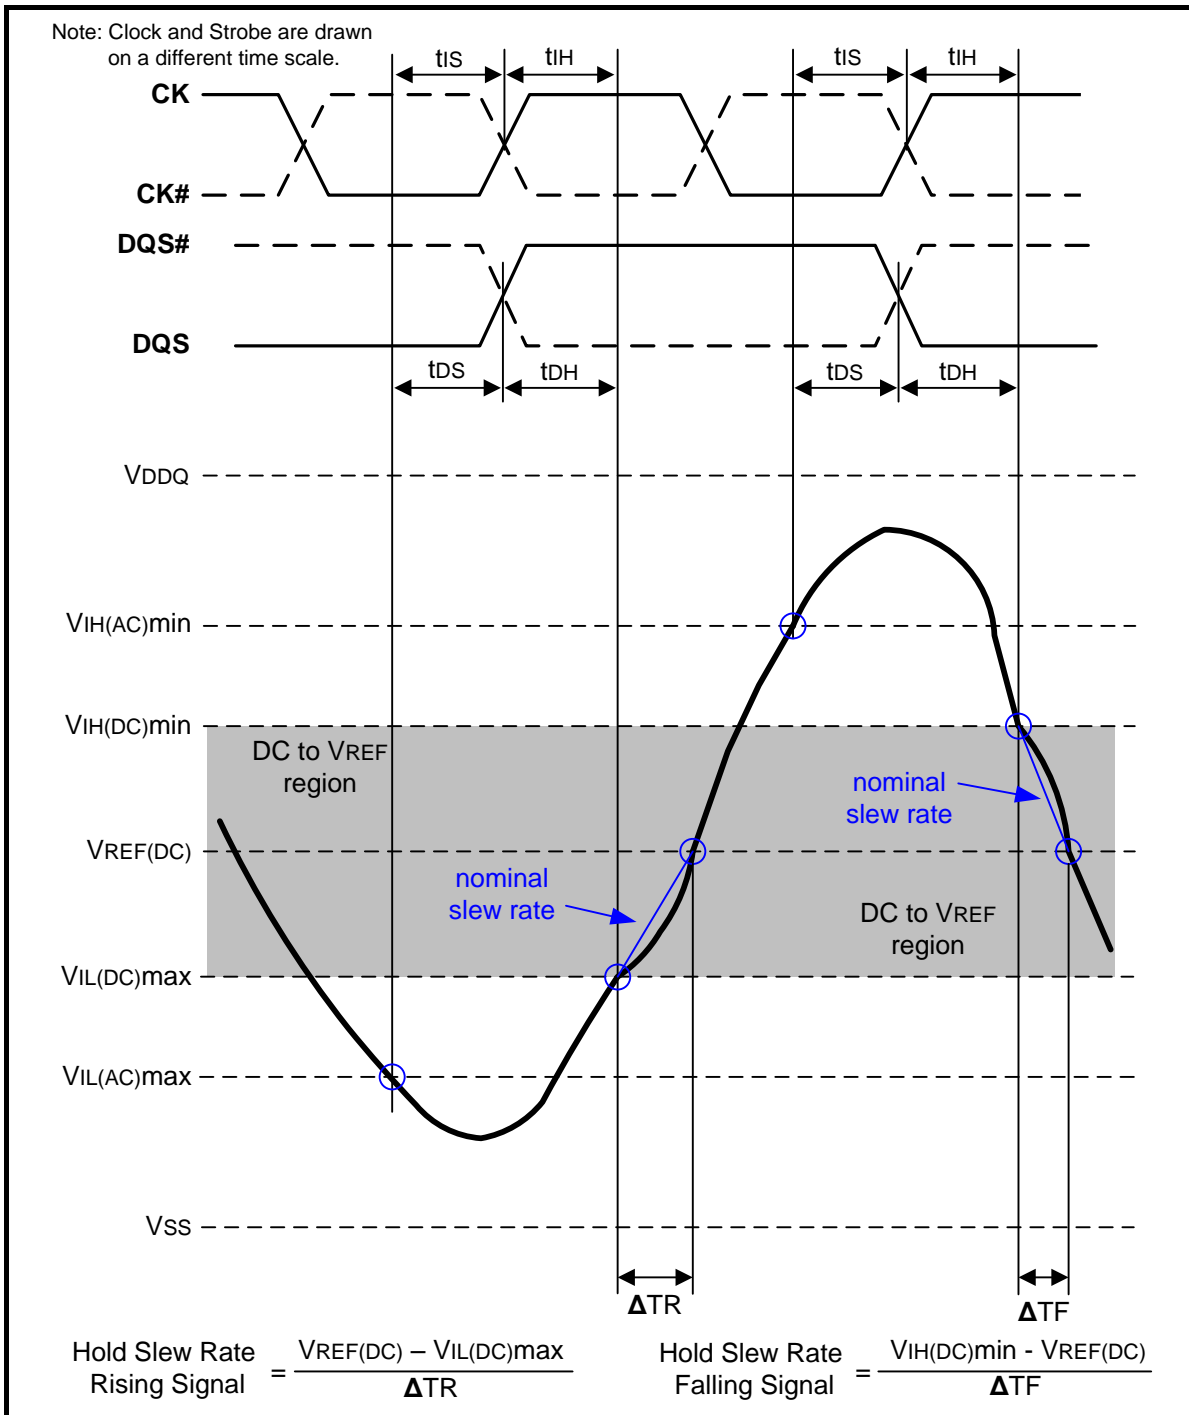
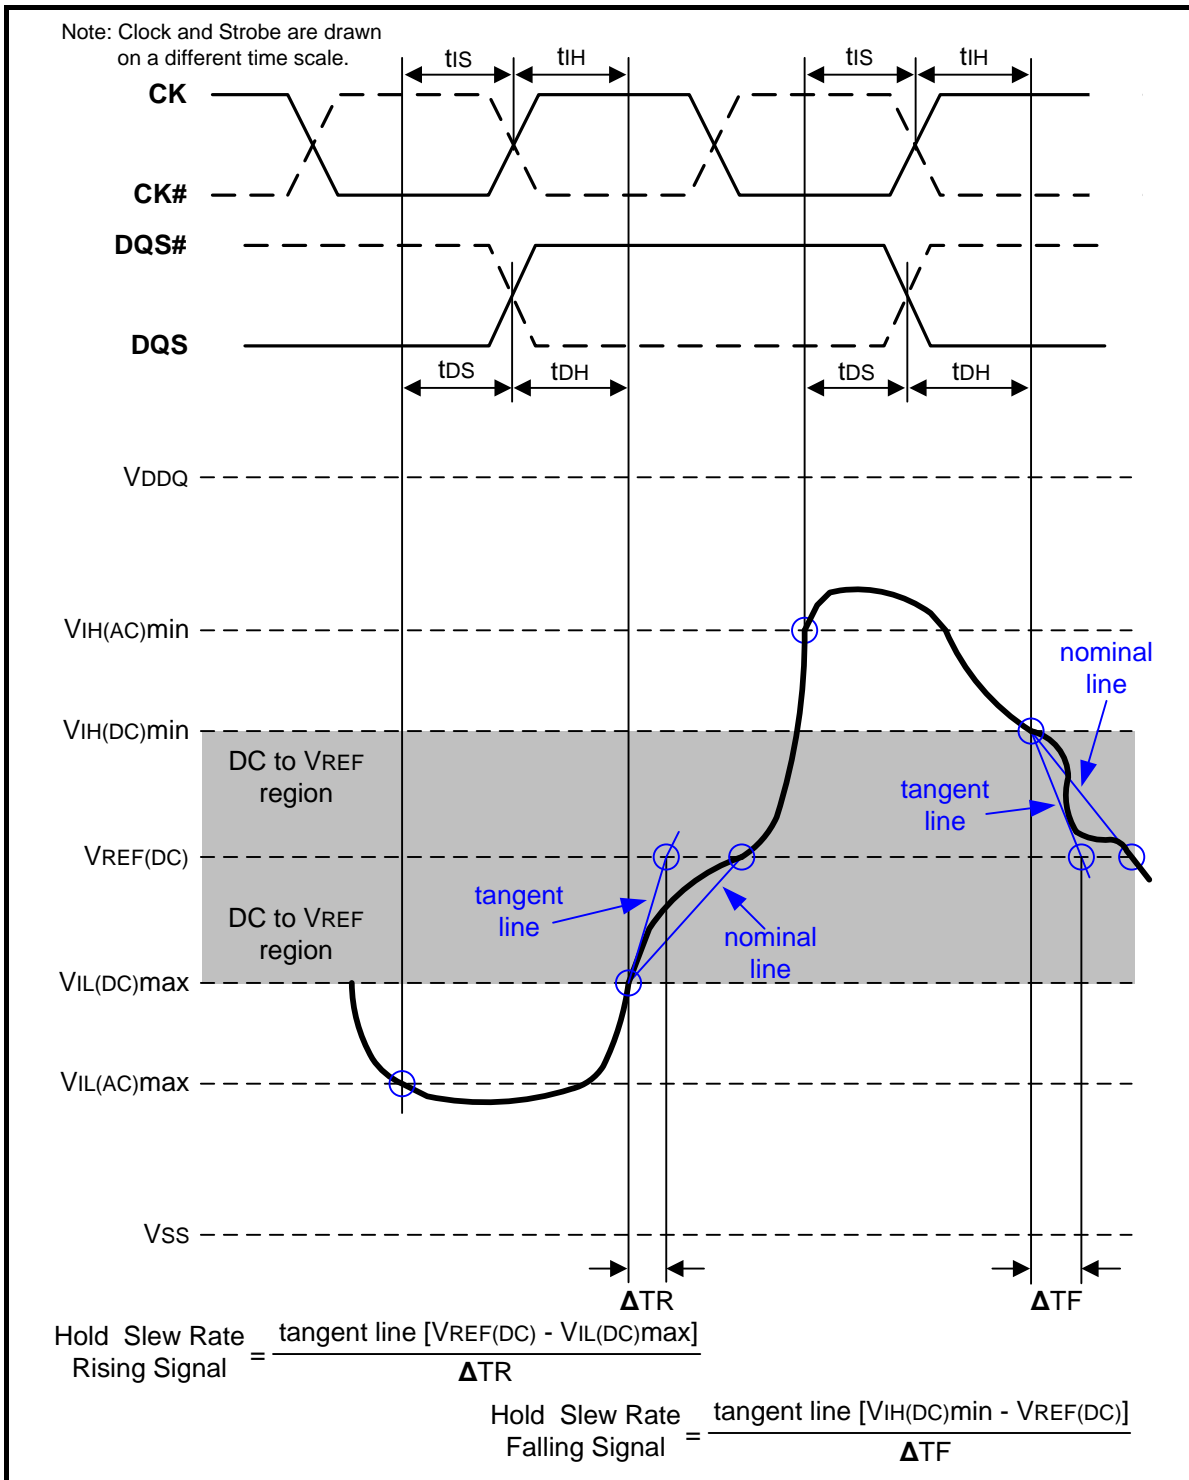

Figure 108 – Illustration of nominal slew rate for hold time tDH (for DQ with respect to strobe) and tIH (for ADD/CMD with respect to clock)
Figure 110 – Illustration of tangent line for for hold time tDH (for DQ with respect to strobe) and tIH (for ADD/CMD with respect to clock)
Hold ( $t_{IH}$ ) nominal slew rate for a rising signal is defined as the slew rate between the last crossing of  $V_{IL(DC)max}$  and the first crossing of  $V_{REF(DC)}$ . Hold ( $t_{IH}$ ) nominal slew rate for a falling signal is defined as the slew rate between the last crossing of  $V_{IH(DC)min}$  and the first crossing of  $V_{REF(DC)}$ . If the actual signal is always later than the nominal slew rate line between shaded 'DC to VREF(DC) region', use nominal slew rate for derating value (see Figure 108). If the actual signal is earlier than the nominal slew rate line anywhere between shaded 'DC to VREF(DC) region', the slew rate of a tangent line to the actual signal from the DC level to  $V_{REF(DC)}$  level is used for derating value (see Figure 110).
Hold (tDH) nominal slew rate for a rising signal is defined as the slew rate between the last crossing of VIL(DC)max and the first crossing of VREF(DC). Hold (tDH) nominal slew rate for a falling signal is defined as the slew rate between the last crossing of VIH(DC)min and the first crossing of VREF(DC) (see Figure 108). If the actual signal is always later than the nominal slew rate line between shaded 'DC level to VREF(DC) region', use nominal slew rate for derating value. If the actual signal is earlier than the nominal slew rate line anywhere between shaded 'DC to VREF(DC) region', the slew rate of a tangent line to the actual signal from the DC level to VREF(DC) level is used for derating value (see Figure 110).